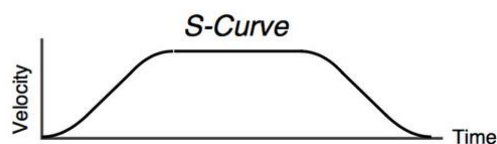

Figure 03: S-curve velocity command profile
- ❖ When you are giving commands to the motor via the microcontroller, it is a good practice to give smooth commands rather than step like commands. Gradual incrementations in the command values starting from the initial conditions is vital to avoid current spikes generating inside the motor, therefore, to the safety of the motor. An S-curve profile is argued to be a good commanding profile for the velocity of a motor and is shown in the Figure 03. In this profile, velocity increases from zero and gradually rises to the maximum velocity and then gradually descends.